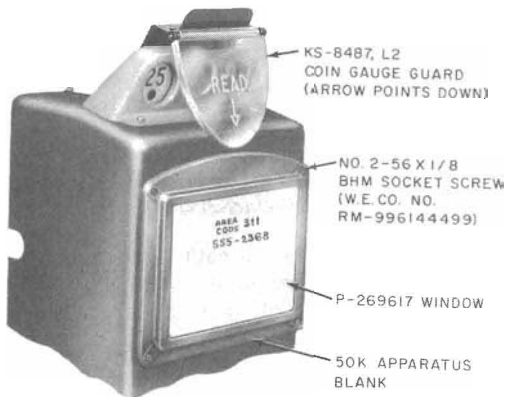
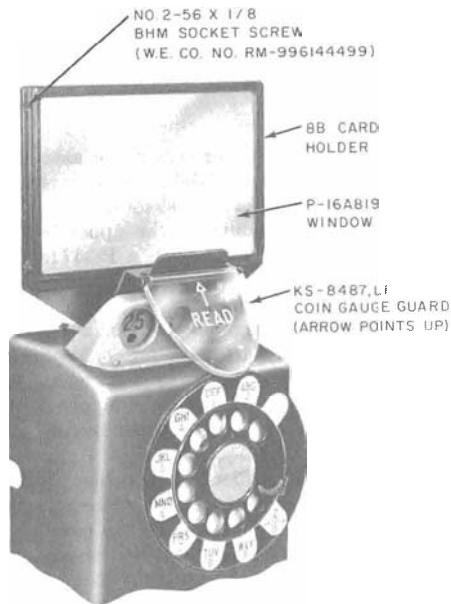

Fig. 8—Manual Type Coin Collector Equipped With Coin Gauge Guard
Fig. 9—Dial Type Coin Collector Equipped with Coin Gauge Guard
2.11 The 50-type apparatus blank covers the dial cup on manual coin collectors (Fig. 8).
2.13 The 8-type card holders mount on top of the housing behind the coin gauge (Fig. 9). Three P81J700 slotless machine screws, three P-92383 hex nuts, and three P-423631 lockwashers hold the card holder in place.
2.15 Postpay coin collectors without coin-release pushbutton mechanisms may be equipped with a KS-8487, List 1 coin gauge guard (Fig. 9) or a KS-8487, List 2 coin gauge guard (Fig. 8). Coin gauge guards are designed to alert the customer to read the instructions before depositing coins. The device consists of a mounting bracket and a transparent hinged guard with the word READ and a vertical red arrow. The guard must be raised before depositing coins.